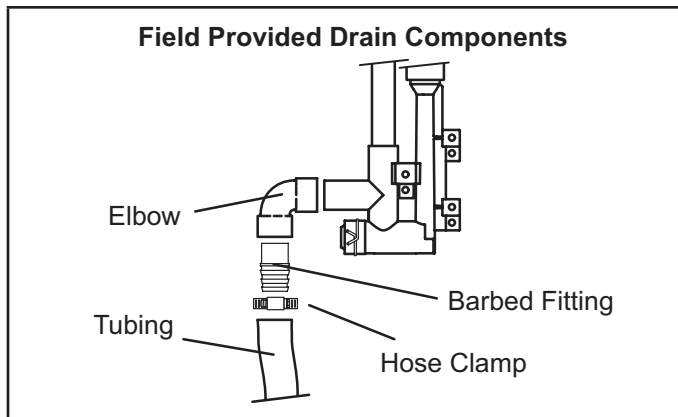

**FIGURE 39**
This unit is designed for either right- or left-side exit of condensate piping in upflow applications. In horizontal applications, the condensate trap must extend below the unit. An 8" service clearance is required for the condensate trap. Refer to FIGURE 39 and FIGURE 41 for condensate trap locations. FIGURE 47 shows trap assembly using 1/2" PVC or 3/4" PVC.
- 3 - Install the cap over the clean out opening at the base of the trap. Secure with clamp. See figure 39.